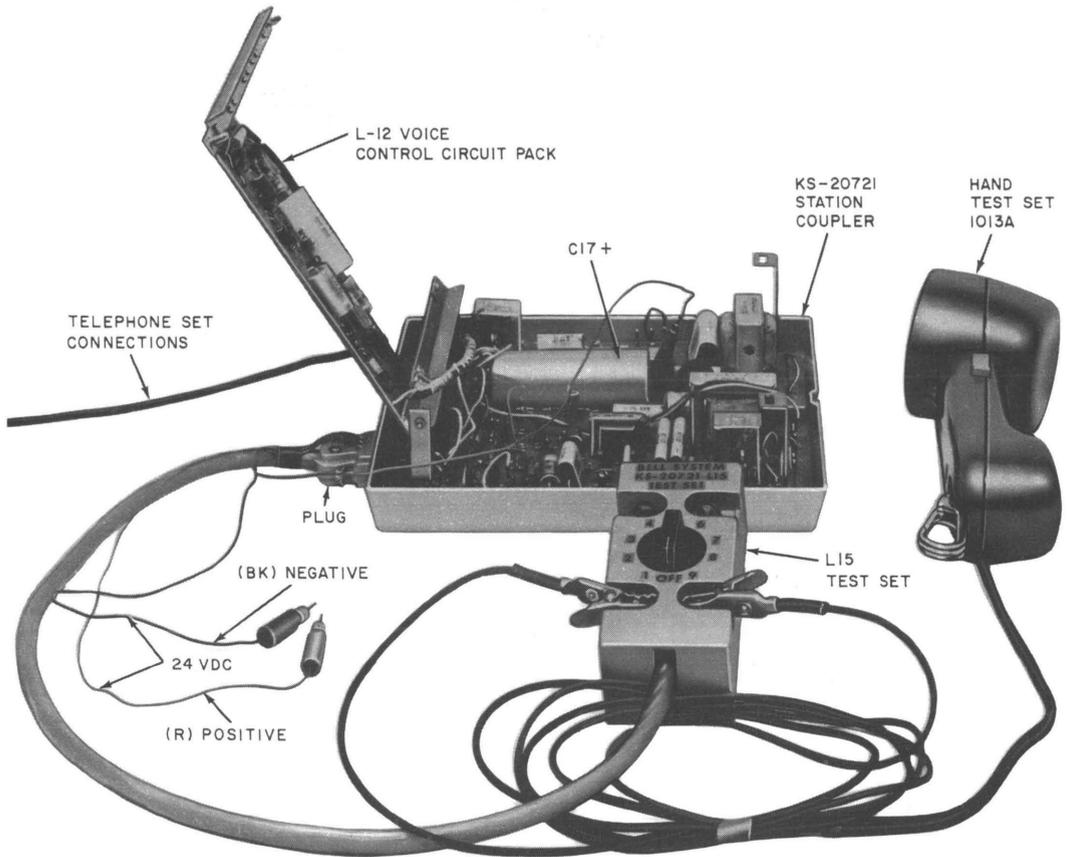

Fig. 5—KS-20721, List 2 Station Coupler With KS-20721, List 15 Test Set and 1013A Hand Test Set
- Remove extra circuit packs from Fig. 5
- Set, Test, KS-20721, List 15 (Fig. 5)—see 2.05
2.05 The KS-20721, List 15 test set plugs into the connector on the station coupler and is used with a 1013A hand test set (or equivalent) to test the operation of the coupler independent from the CPE (Fig. 5).
- 4.04** The List 15 test set (Fig. 5 and 7) used with the 1013A hand test set (or equivalent) and a connecting cable terminated in a plug for connection to the station coupler permits checking of the coupler independent of the CPE.
3	Connect a 1013A (or equivalent) hand test set to terminals provided on test set (Fig. 5).
6	Connect alligator clip on wire coming from the test set plug to the positive (+) terminal of capacitor C17 in the station coupler (Fig. 5).